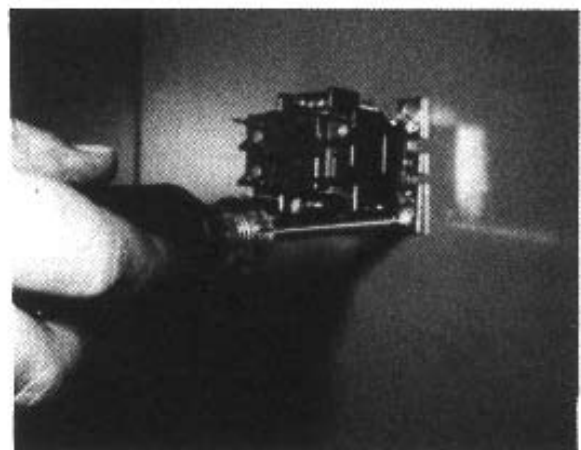

Figure 20: Thermostat Isolation Relay Attachment
- d. Steam Boilers only. Secure the R8222 Thermostat Isolation Relay to upper left corner of jacket vestibule panel with sheet metal screws provided. See Figure 20.